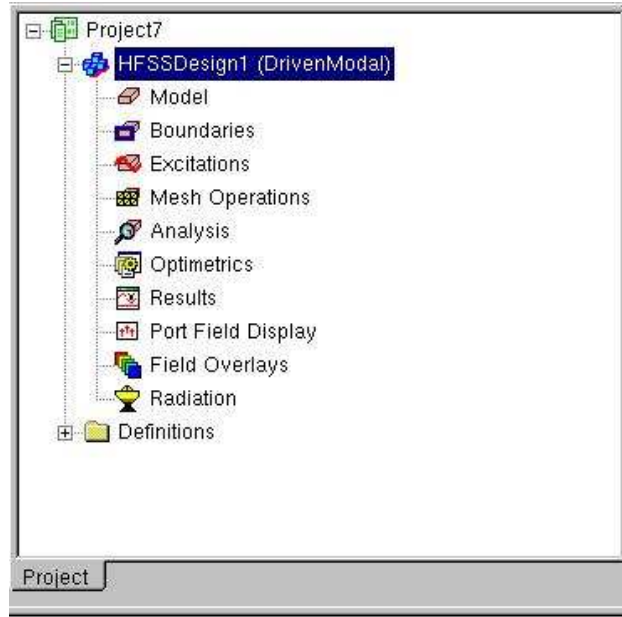

Figure 3: Project Manager window illustrating the boundary conditions, excitation, etc. of the current model.
- **Project Manager with Project Tree** The project manager window displays details about all open HFSS projects. Each project ultimately includes a geometric model, its boundary conditions and material assignments, and field solution and post processing information. An expanded view of the project manager is shown in Figure 3